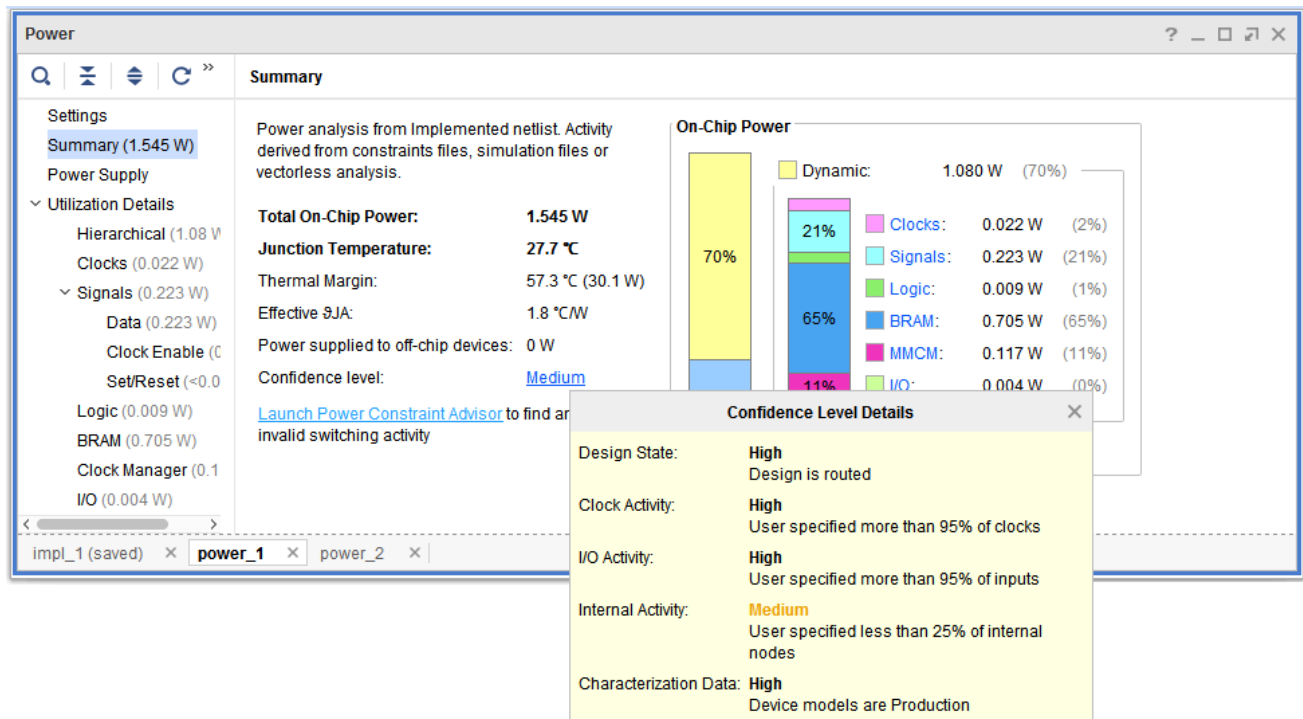

Figure 39: Confidence Level for Vectorless Power Analysis (power_1)
- In the **Summary** view of the **power_1** report (the report generated by the vectorless analysis), click on **Confidence level (High)** in Figure 39).